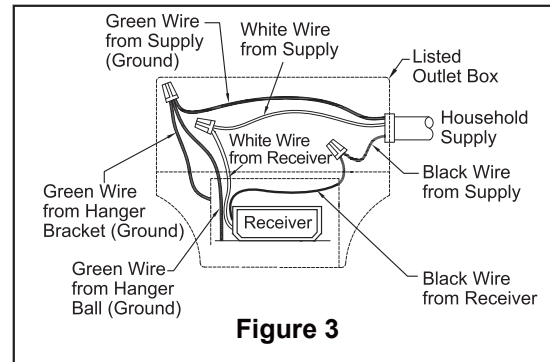

Figure 3
- ☐ Securely attach the hanger bracket to the outlet box using the outlet box screws and washers supplied with the outlet box. (Figure 3)
- After connections have been made, the wires should be spread apart with the grounded conductor and the equipment-grounding conductor on one side of the outlet box and the ungrounded conductor on the other side of outlet box, then turn leads upward and carefully push leads into the outlet box, with the white and green leads to one side of the box and the black leads to the other side. (Figure 3)
- ❑ To make fan operational, Install two 1.5V AAA batteries. battery not included (If not used for long periods of time, remove battery to prevent damage to transmitter). Store the remote away from excessive heat or humidity. (Figure 3)